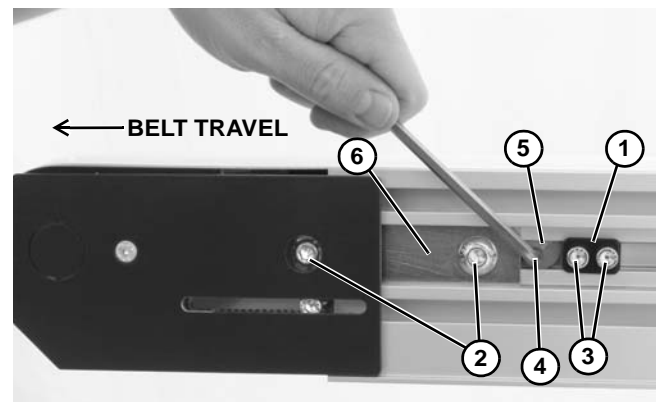

Figure 36
Conveyors are equipped with belt tracking cam assemblies (**Figure 36, item 1**) for belt tracking adjustment.
1. Ensure head plate fastening screws (**Figure 36, item 2**) on both sides of conveyor are tightened.
2. On both sides of conveyor, loosen two (2) cam fastening screws (**Figure 36, item 3**). Adjust cams (**Figure 36, item 4**) until indicator arrows (**Figure 36, item 5**) are horizontal and facing end of conveyor. Then slide cam assemblies against head plates (**Figure 36, item 6**) and re-tighten cam fastening screws (**Figure 36, item 3**) to 60 in-lb (7 Nm).
3. On the side toward which the belt is tracking, loosen head plate fastening screws (**Figure 36, item 2**).
4. With the conveyor running, use a 5 mm hex-key wrench to rotate the tracking cam (**Figure 36, item 4**) in small increments until the belt tracks in the center of the conveyor. Then while holding the cam in position, re-tighten the head plate fastening screws (**Figure 36, item 2**) with a 6 mm hex-key wrench to 60 in-lb (7 Nm).